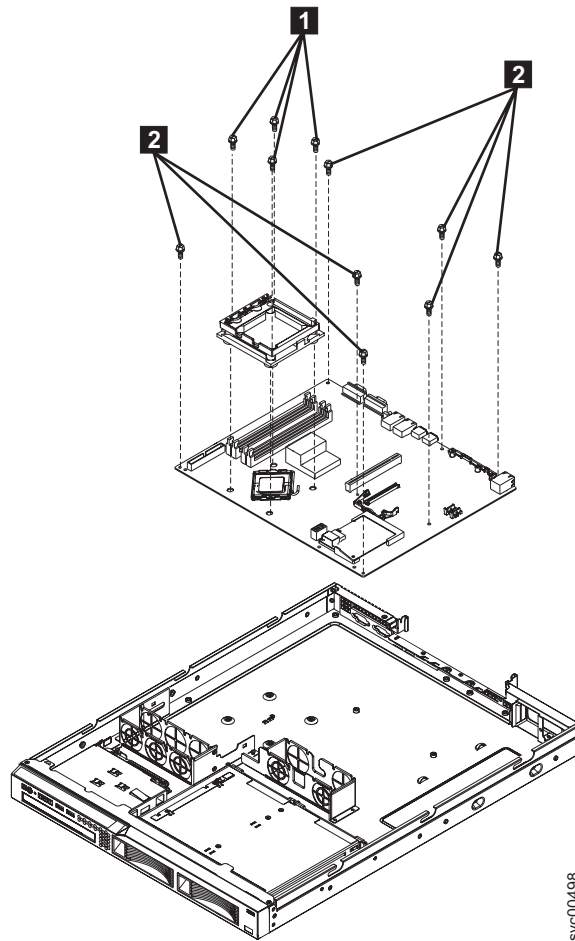

Figure 197. SAN Volume Controller 2145-8A4 system board and microprocessor retention module
16. Notice the orientation of the microprocessor retention module and then remove the four screws (1 in Figure 197 on page 213) that hold the microprocessor retention module to the system board. Then, lift the retention module out of the server.
17. Remove the remaining eight screws (**2** in Figure 197) that secure the system board to the chassis. Put the screws in a safe place.